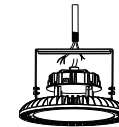

Figure 14
2. Make the corresponding holes on the bracket through the 1/2 "NPT (Figure 14).